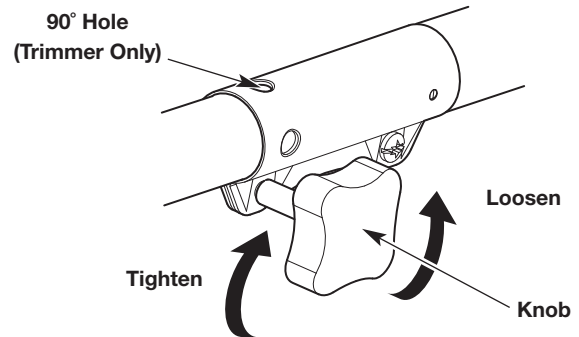

Fig. 8
3. Turn the knob counterclockwise to loosen the coupler (Fig. 8).
6. Turn the knob clockwise to tighten the coupler (Fig. 8).
**NOTE:** For decorative trimming with a string trimmer attachment, lock the release button into the 90° hole (Fig. 8).
2. Turn the knob counterclockwise to loosen the coupler (Fig. 8).